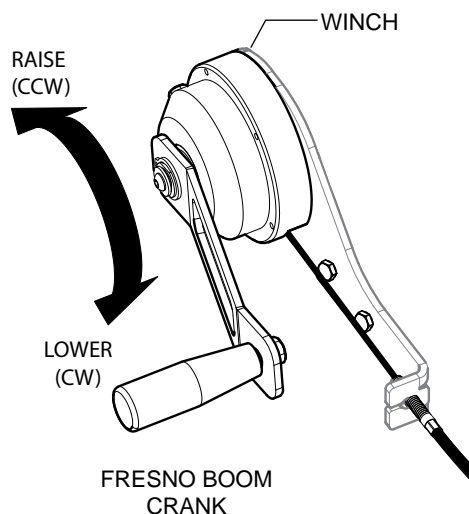

Figure 35. Winch Hand Crank Rotation
2. Rotate the crank handle clockwise to lower, and counterclockwise to raise, the boom (Figure 35).